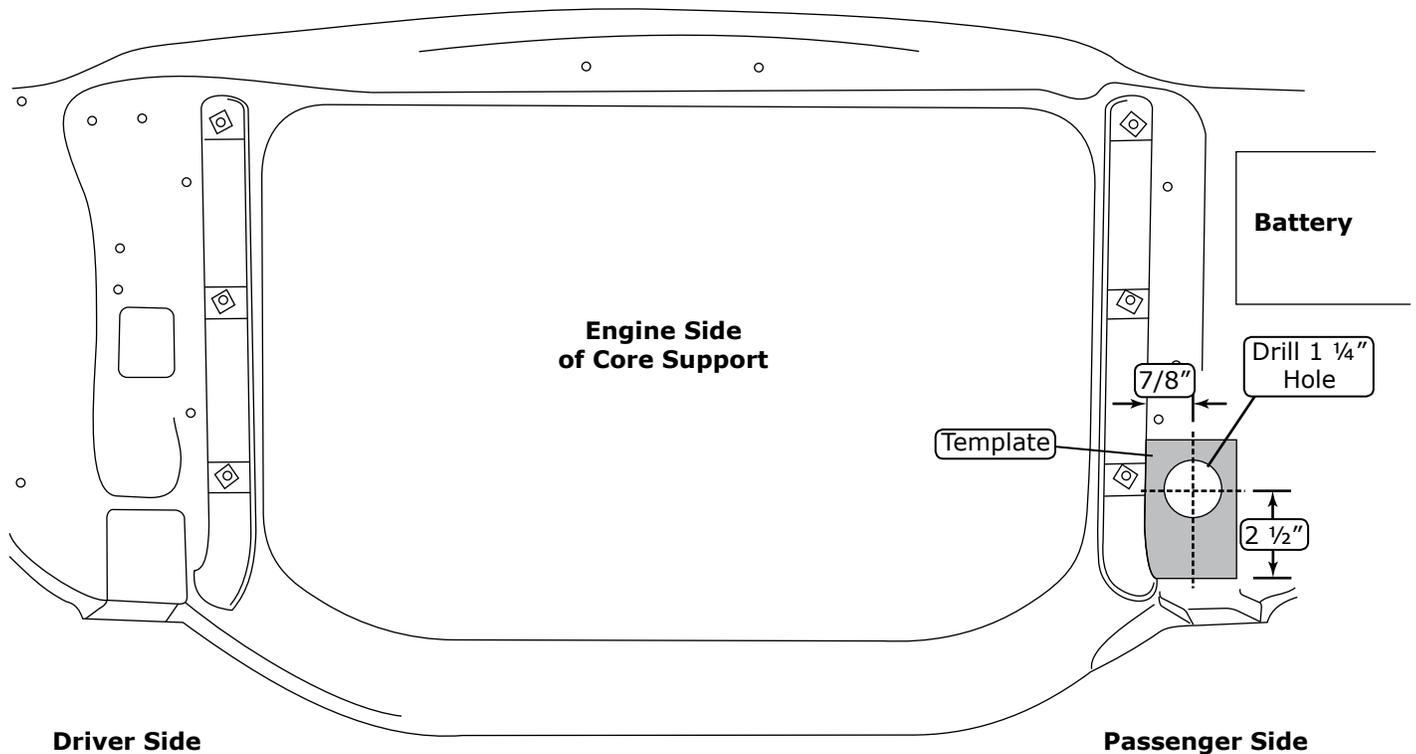

Figure 1
1. Cut out the template provided on Page 13, and place it on the engine side of the core support as shown in Figure 1, below. Mark hole location.
2. Using a 1 1/4" hole saw, drill a hole in the core support (See Figure 1, below).